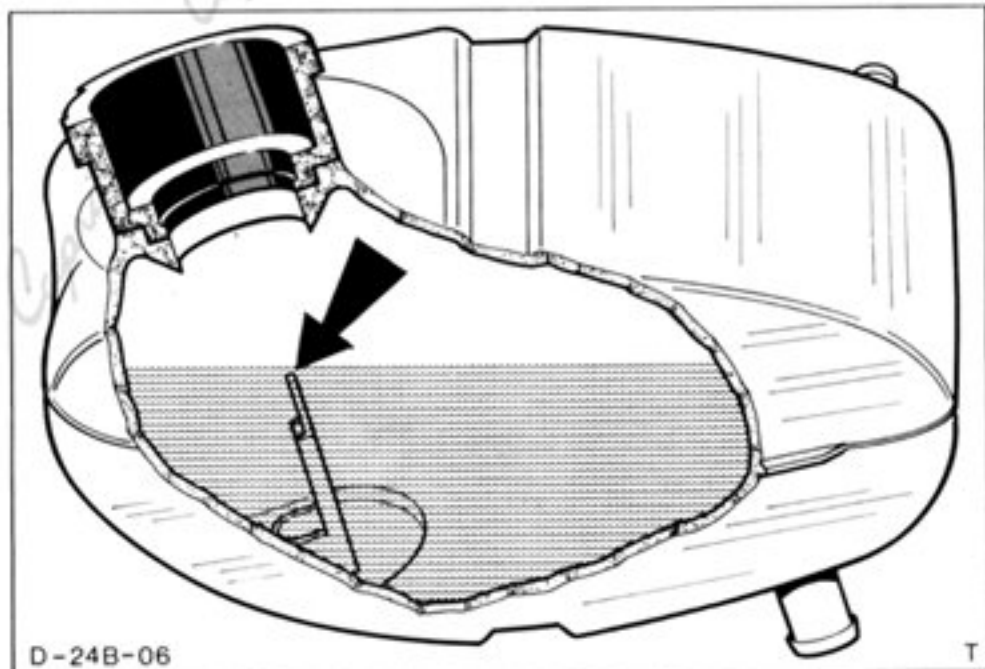

Fig.33. Coolant level indicator inside tank.
6. Reconnect battery. Run engine, check all hose connections for leaks and, if necessary, top up coolant in tank to top of plastic indicator inside tank, Fig.33. Remove drain tray.